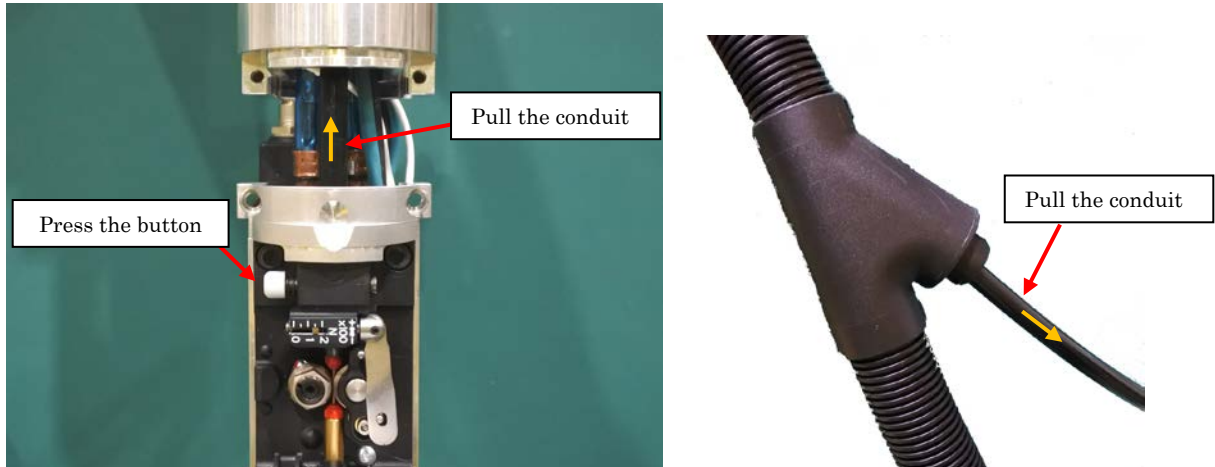

Fig. 7.8.2 (a) Removing parts
- 2 Pull out the conduit during pressing the button referring to Fig. 7.8.2 (a).
If the work is difficult, pull out the hose pack connection par in Fig. 7.8.2 (a).